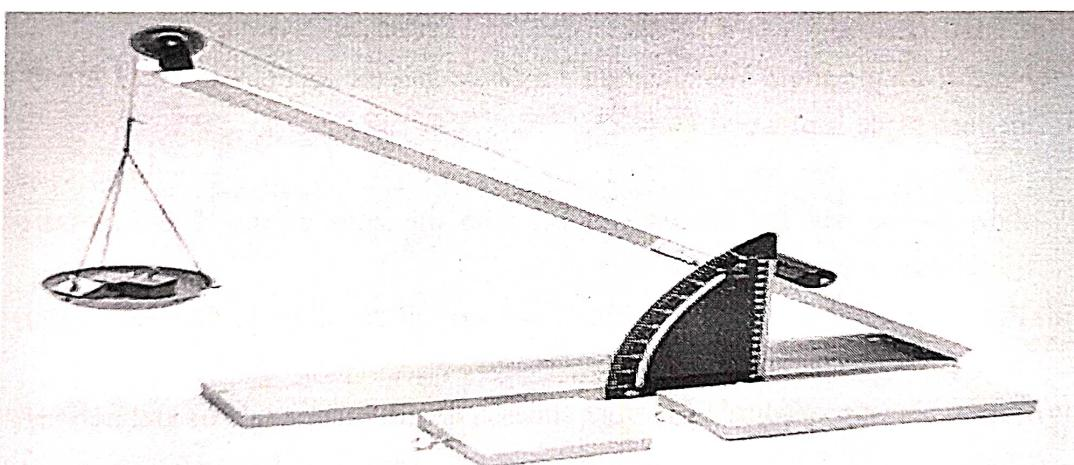

Fig1. Inclined Plane Apparatus
As shown in the fig. 1, the jib crane is an example of three concurrent forces. The forces in the tie and the jib can be calculated experimentally. Analytically it can be found by making use of Lami's theorem, which states that when three forces acting on a body are in equilibrium, then each force is proportional to the *sin* of the angle between the other two forces. Jib crane consists of an inclined member supported by a rope or any other type of structural member attached to a vertical mast or frame. Load is usually suspended from the outer end of this inclined mast. The outreach of the jib may be fixed or variable. The cranes may be either fixed or moveable.
- (iv) Measure the length of tie chain and jibe. Note the height of upright post (BC in figure 1) which is fixed.